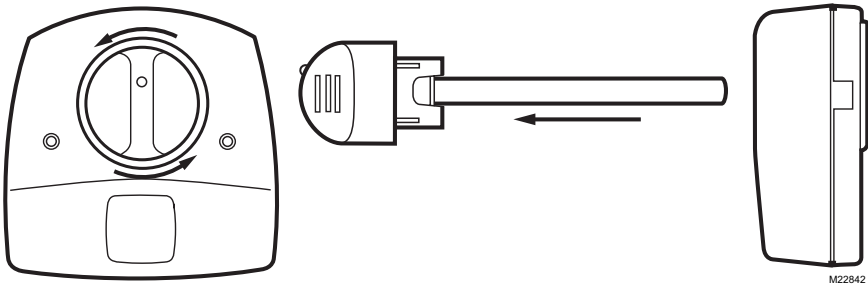

Fig. 5. Remove lamp bulb.
3. Rotate your lamp handle counterclockwise and gently pull the lamp handle to remove the bulb. See Fig. 5.
4. Rotate the lamp handle counterclockwise and gently pull the lamp handle to remove the bulb. See Fig. 5.